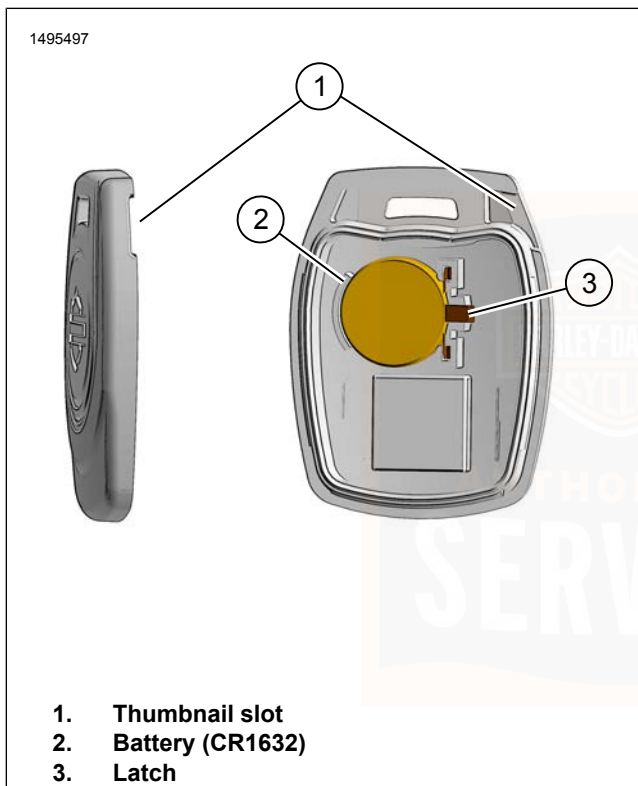

Figure 24. Replace Fob Battery
- See Figure 24. The serial number of the fob is also found on the inside of the fob.
1. See Figure 24. To open the fob, turn a thin blade in the slot (1).
2. Remove the battery (2) and discard in accordance with local regulations.